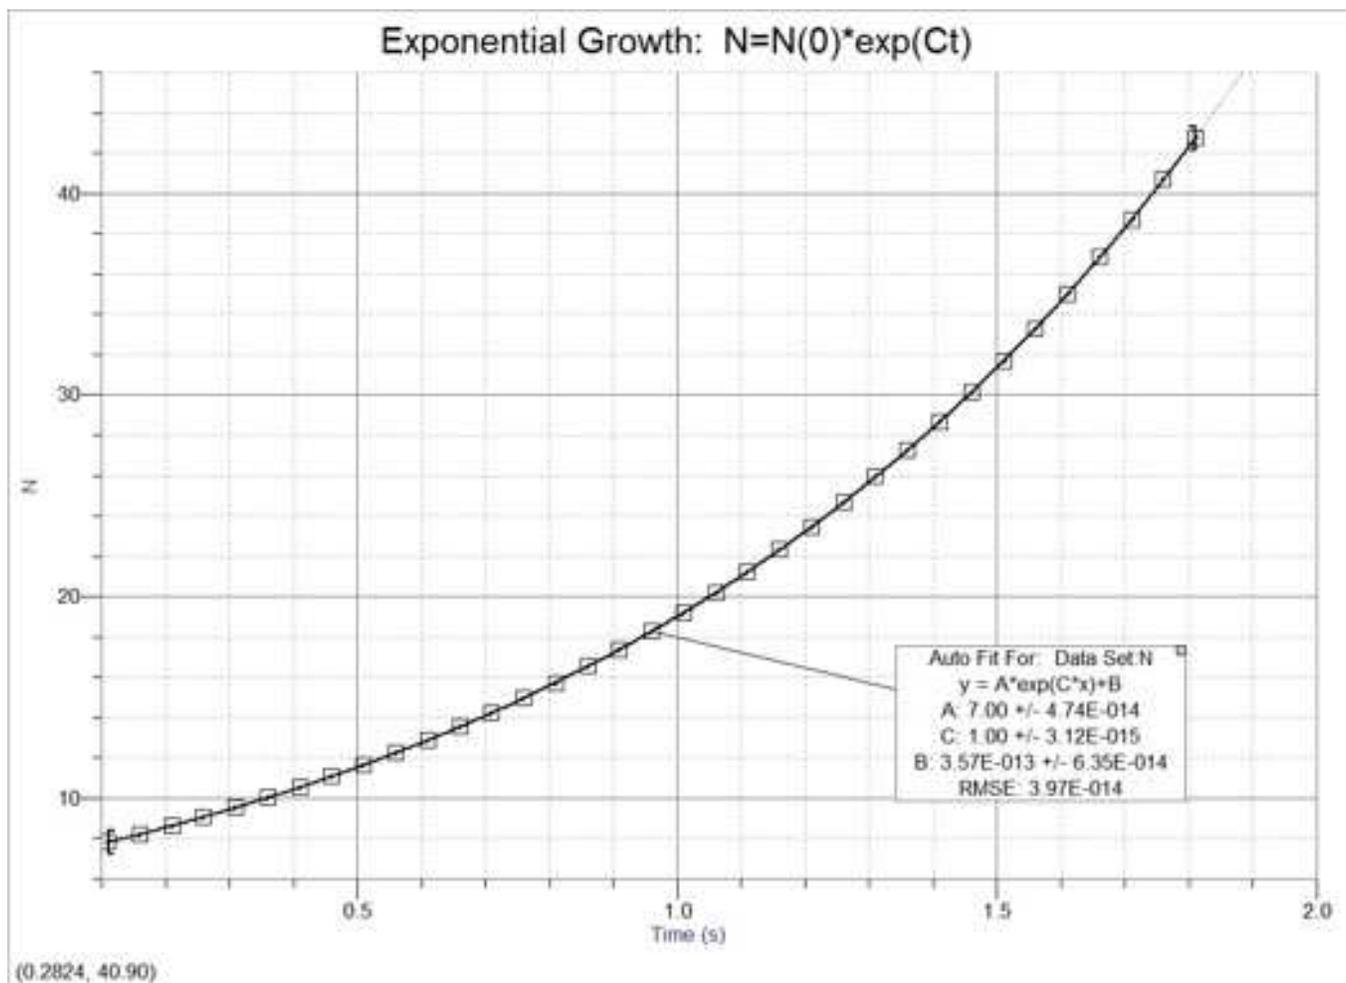

Figure 20.6: Exponential Growth
2. Refer to Fig. 20.6, below. The *doubling-time* is the time it takes for the initial number or amount to double. What is the doubling-time ($N = 2N_0$)? (Find the value on the y-axis, then move horizontally until you intersect the plot. Drop a perpendicular line to the x-axis and read the time.) (20 pts)